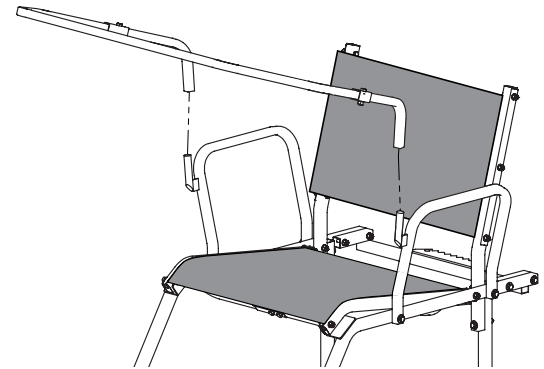
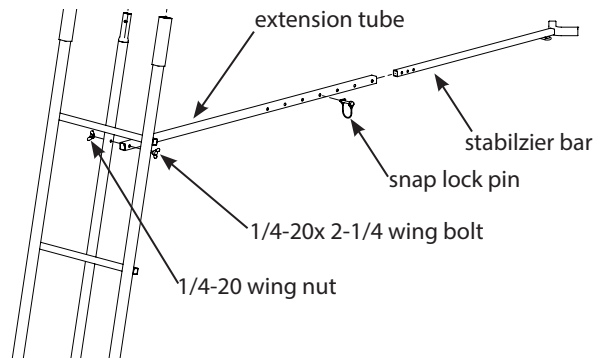

Figure 21
Figure 22
19. a. Attach the removable shooting rail by setting rail down over studs provided on armrests **SEE FIGURE 21**. Lubrication is recommended to prevent binding and noise.
b. Attach the (2) provided 9" and (1) provided 47" camo foam pads to the armrests and shooting rail by wrapping around tubing and attaching Velcro® together.
20. a. Attach the stabilizer bar extension tube (48053) to the second ladder section mounting hole using (1) provided 1/4-20 x 2-1/4" wing bolt and wing nut. **SEE FIGURE 22.**
b. Slide the stabilizer bar (48052) into the extension tube and attach the two pieces together using (1) provided spring lock pin. Spring lock pin must go through both the extension tube and stabilizer bar at appropriate hole to achieve desired distance from tree. Adjustment in length may be needed when ladder is uprighted later in instructions. **SEE FIGURE 22.**